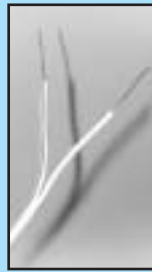

FIG. 3-6
- Splitting and stripping wire ends to be connected as shown (Fig. 3-6).
2. Remove 1/2" insulation from each wire (Fig. 3-6)(pg. 19).